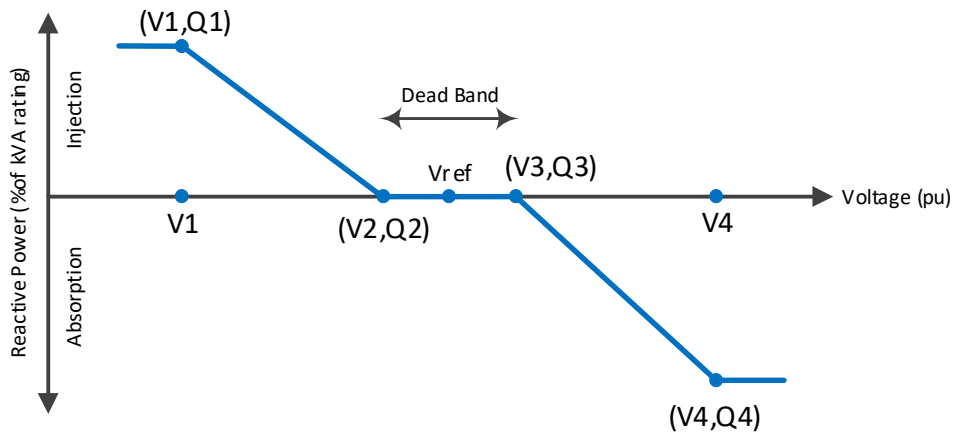

Figure 2-1. Example Volt-Var characteristic
- Figure 2-1. Example Volt-Var characteristic5
An example Volt-Var characteristic is shown in Figure 2-1. The voltage-reactive power characteristic shall be configured in accordance with the default parameter values specified in Table 2-6.